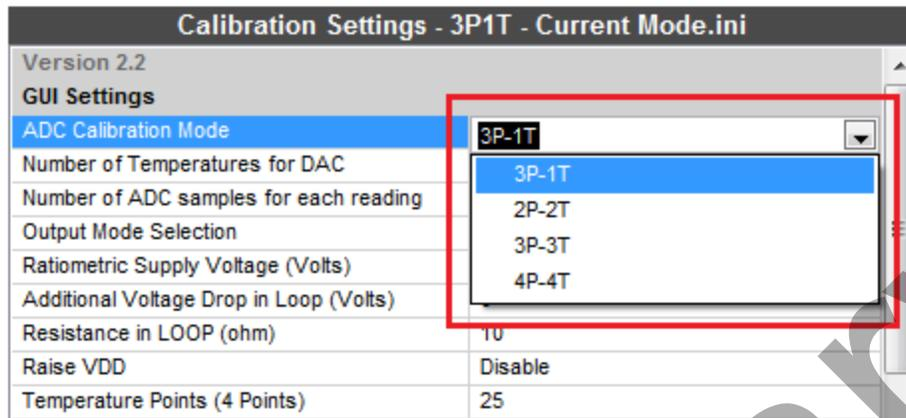

Fig 53: Calibration Settings File Editor Drop Down
3. Select the settings to be edited and click on the setting value to be changed. A drop down list will appear showing the list of available values that can be configured. Select required value from the drop down as shown in *Fig 53: Calibration Settings File Editor Drop Down*